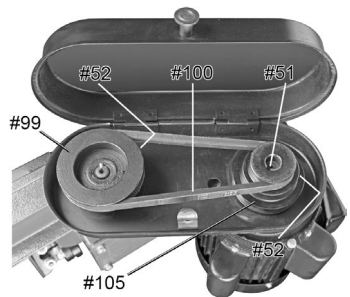

Fig. 7
2. Place the V-Belt (#100) around the top grooves in the Spindle Pulley (#99) and Motor Pulley (#105) [Fig. 7]).
- b. Place the V-Belt around the desired grooves in the Spindle Pulley (#99) and Motor Pulley (#105 [Fig. 7]).